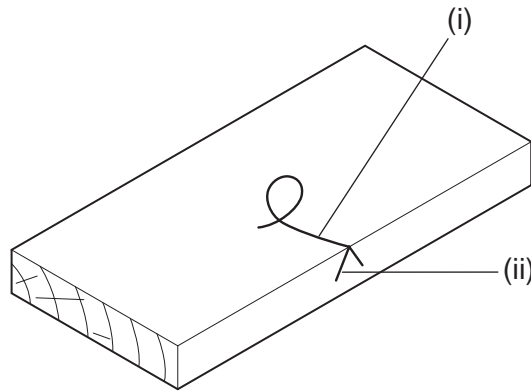

Fig. 4
- 5 When preparing wood to size it is necessary to label the true surfaces from which marking out is done. These datum marks are shown in Fig. 4.